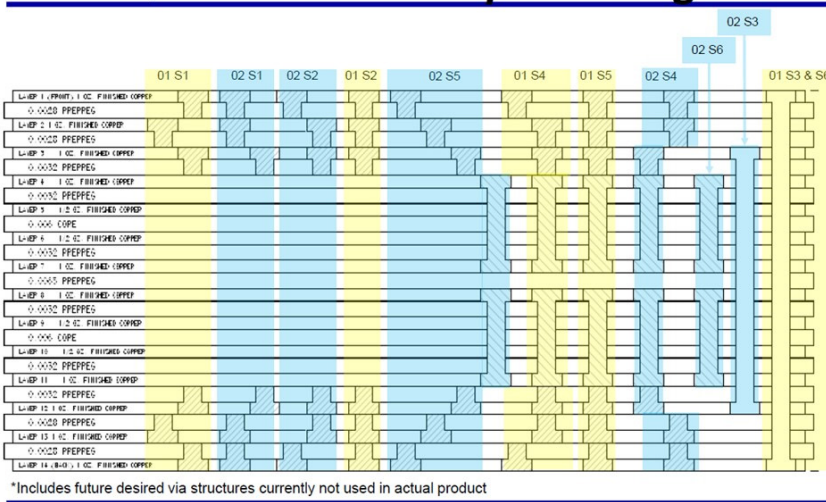

FIGURE 2. A complex HDI qualification coupon (3-8-3) with both stacked and staggered microvia structures. [used with permission] [4]
- This has been observed in complex HDI structures such as the 3-8-3 Qualification Coupon Design seen in Figure 2 below.